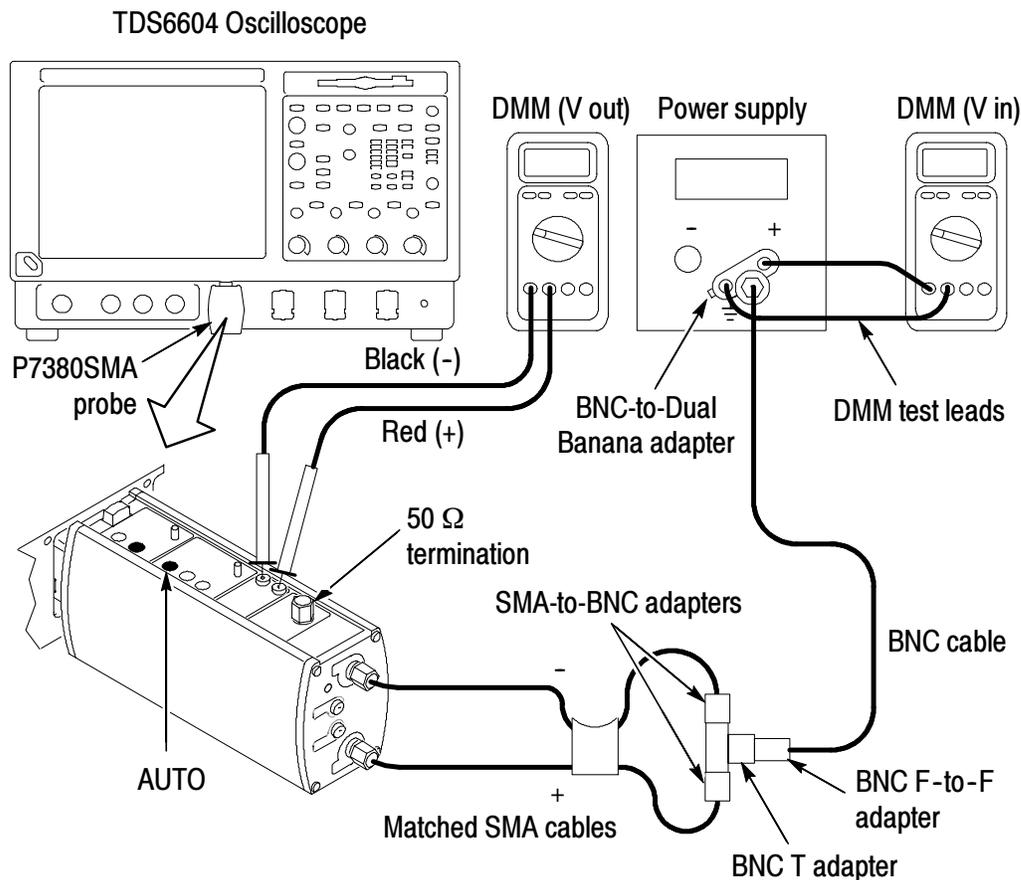

Figure 38: Termination Voltage Accuracy, Auto mode setup
1. Connect the test setup as shown in Figure 38.